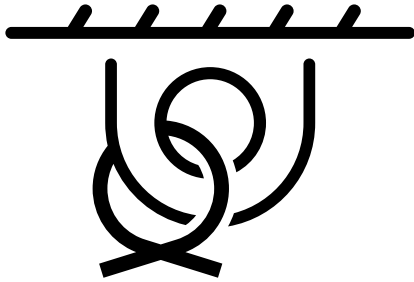

Figure 8. Tie-Down Symbol
1. Locate the tie-down symbols (Figure 8) on each side of the trowel.